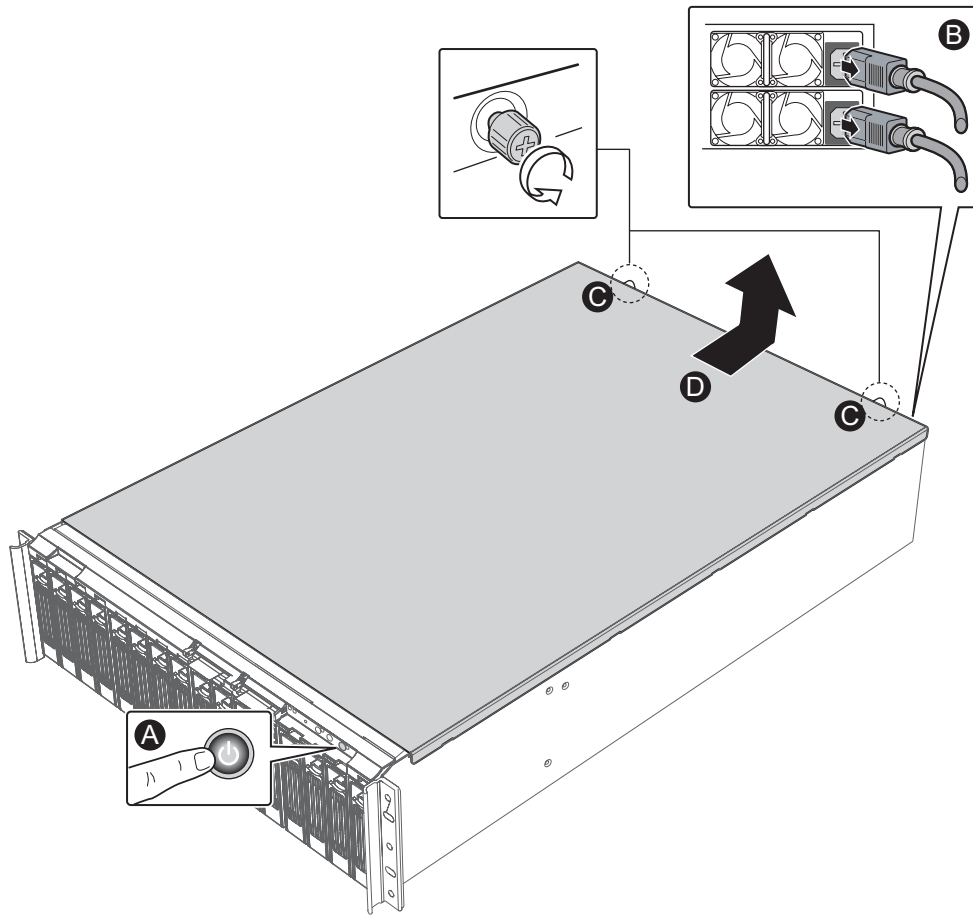

Figure 1. Removing Chassis Cover
- B. Remove both AC Power cords from the AC Power inputs on your system. See Figure 1.
- C. Loosen the two thumb screws from the top of the chassis cover. See Figure 1.